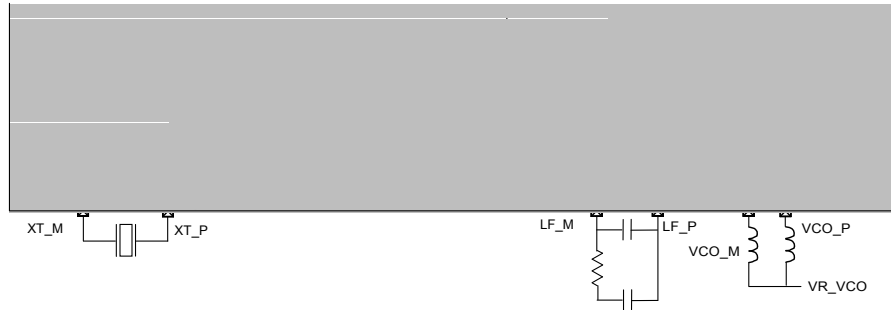

Figure 5: Frequency Synthesizer Description
The crystal oscillator (XO) forms the reference oscillator of an Integer-N Phase Locked Loop (PLL), whose operation is discussed in the following section. Figure 5 shows a block schematic of the RFM64 PLL. Here the crystal reference frequency and the software controlled dividers R, P and S determine the output frequency of the PLL.
As shown in Figure 5 the PLL structure comprises three different dividers, R, P and S, which set the output frequency through the LO. A second set of dividers is also available to allow rapid switching between a pair of frequencies: R1/P1/S1 and R2/P2/S2. These six dividers are programmed by six bytes of the register MCPParam from addresses 6 to 11.